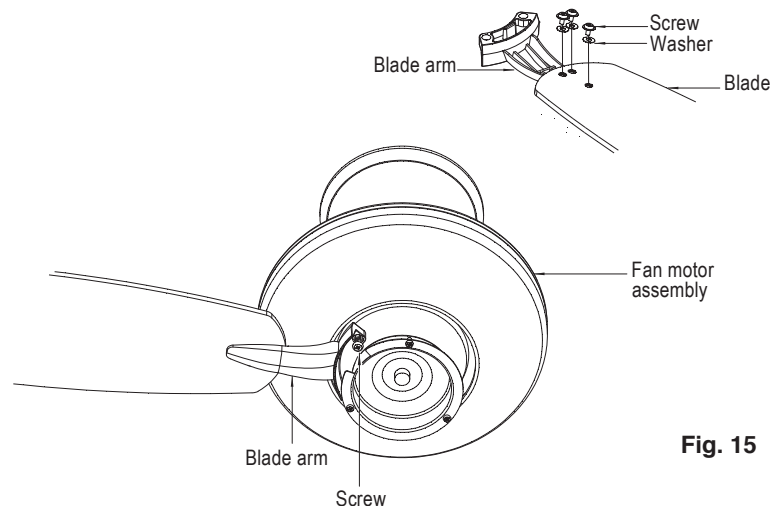

Fig. 15
Step 1. Attach the blade to the blade bracket using the screws and washers as shown in Figure 15. Start screw into bracket. Repeat for the two remaining screws.